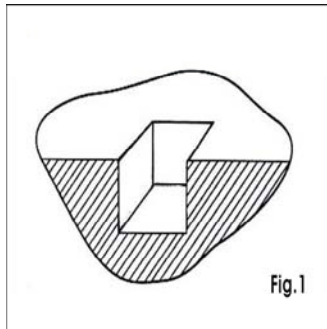

Fig.1
2. Choose a suitable location and dig a rectangular hole approximately 13.78 in long, 11.02 in wide, and 15.75 in deep. And make sure that the bottom is as large as the top. Remove any rocks or sharp objects that could puncture the PVC Liner Basin (Fig.1).